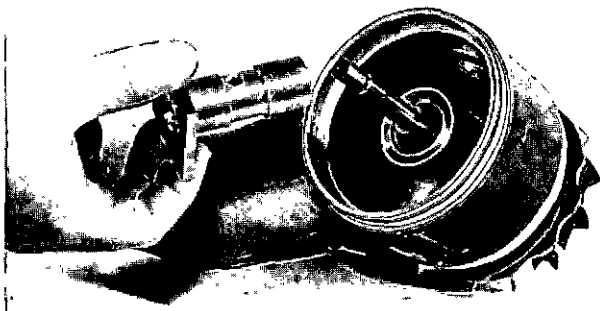

Fig. 2-7, (T3515). Installing the turbocharger bearing
3. Lubricate the rotor shaft and the turbocharger bearing with a clean lubricating oil. Insert the turbocharger bearing over the shaft and into the bearing housing bore, Fig. 2-7.